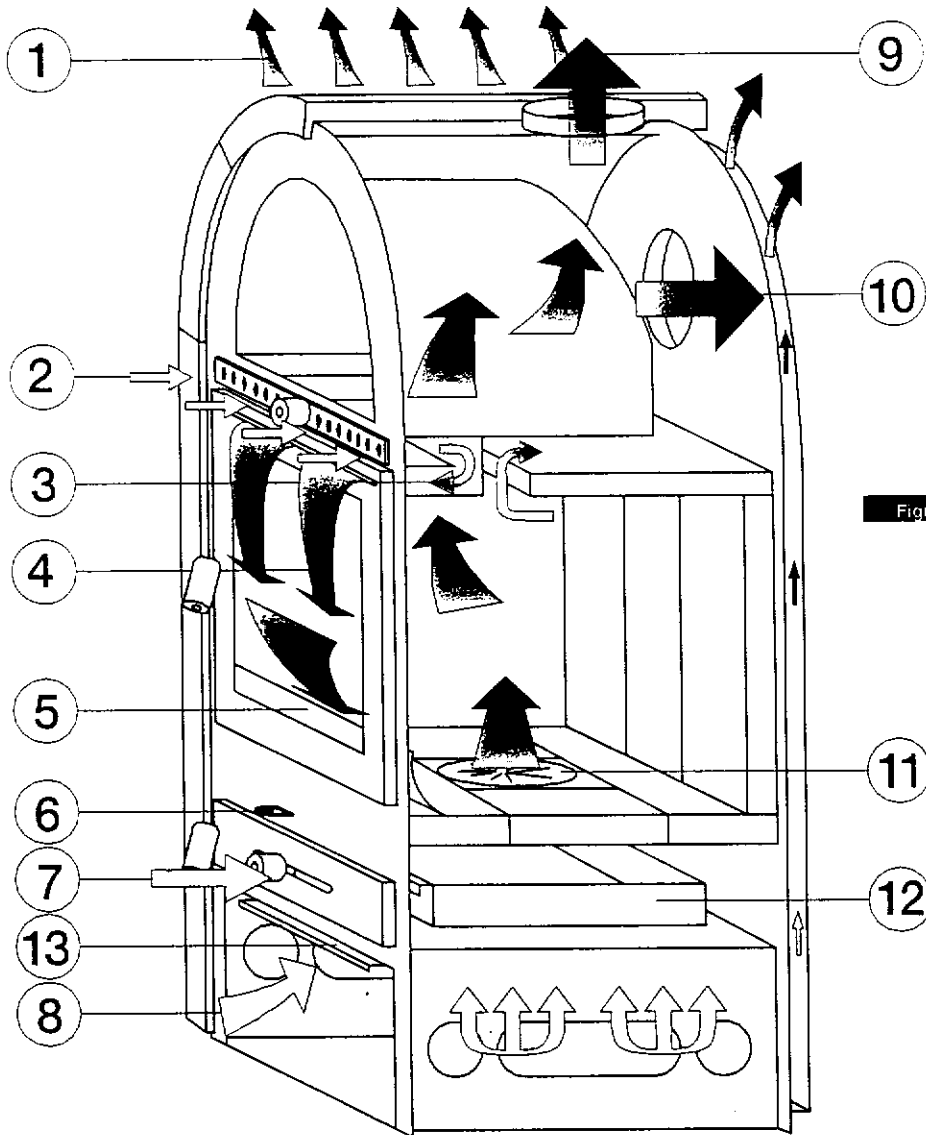

Figure 5
- loosen all the screws on the cover G (Figure 5) and remove it.
- loosen the screws on the cover F (Figure 5) and remove it.
-check that the writing  is pointing in the direction shown in Figure 5
- check that the prefilter H is positioned as shown in Figure 5, that is in front of the air filter itself